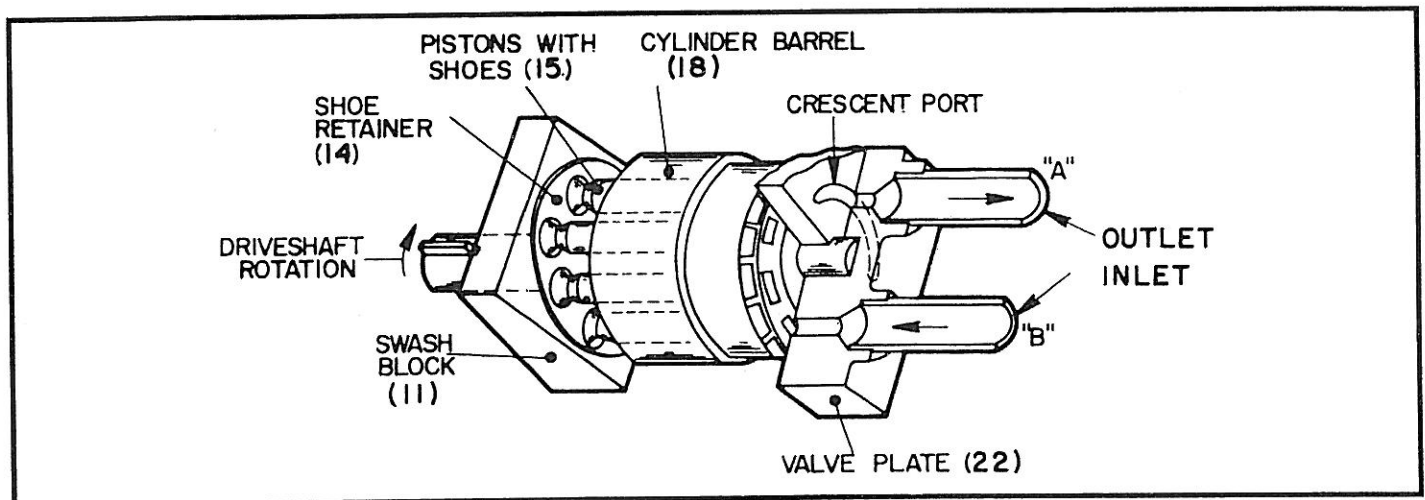

Figure 2. Type "PFWH" Pumping Mechanism shown from right side of pump (517474).
See Figure 2. Turning the driveshaft rotates the splined cylinder barrel (18) which contains pumping pistons with swivel shoes (15). A shoe retainer (14), backed up by a spring (17) loaded fulcrum ball (16), holds piston shoe against a swashblock (11).